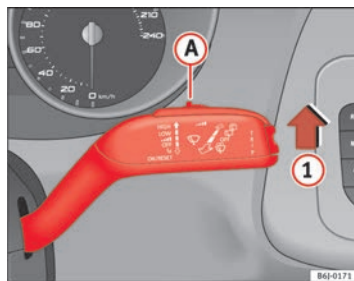

Fig. 63 Windscreen wiper lever
- Move the windscreen wiper lever into position ① ⇒ fig. 63.